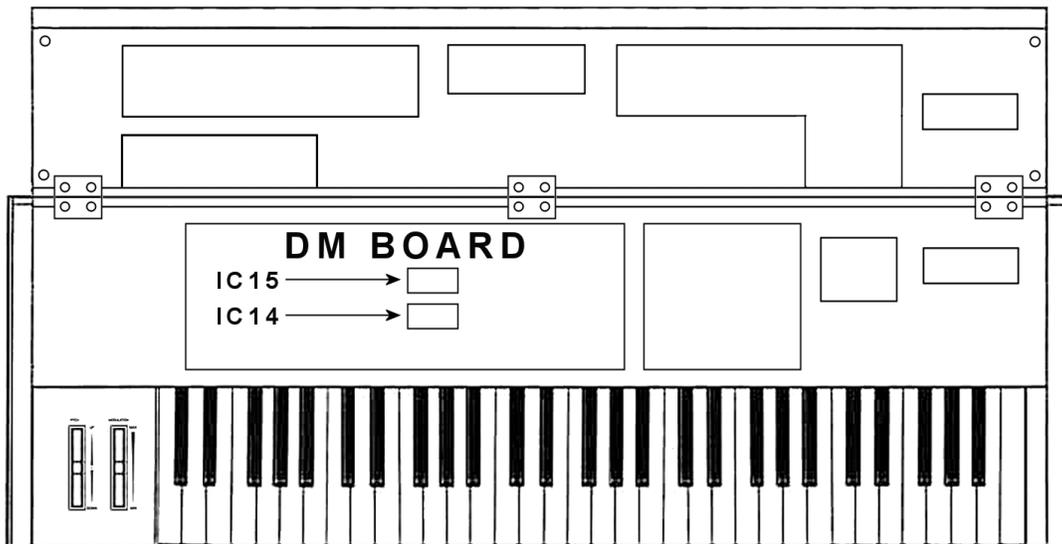

FIGURE 3
- (3) Carefully lift-up the edge of the DX7's front control panel, closest to the keyboard and open it all of the way until it is resting against the back edge of the DX7 case as shown in **FIGURE 3** below.
- (4) Locate IC14, the ROM IC. IC14 is located near the center of the Main Circuit board (the DM board), also shown in **FIGURE 3**. At this point, you can verify whether or not your unit requires further modification before installing the SPECIAL EDITION ROM. Remember, if NO IC15, then NO modification is necessary. If IC15 is present, then your DX7 needs modification before proceeding and you should refer to **APPENDIX A** on Page 28. After completion of the modification, proceed with **Step 5**. If NO modification is required, then go to **Step 5**.